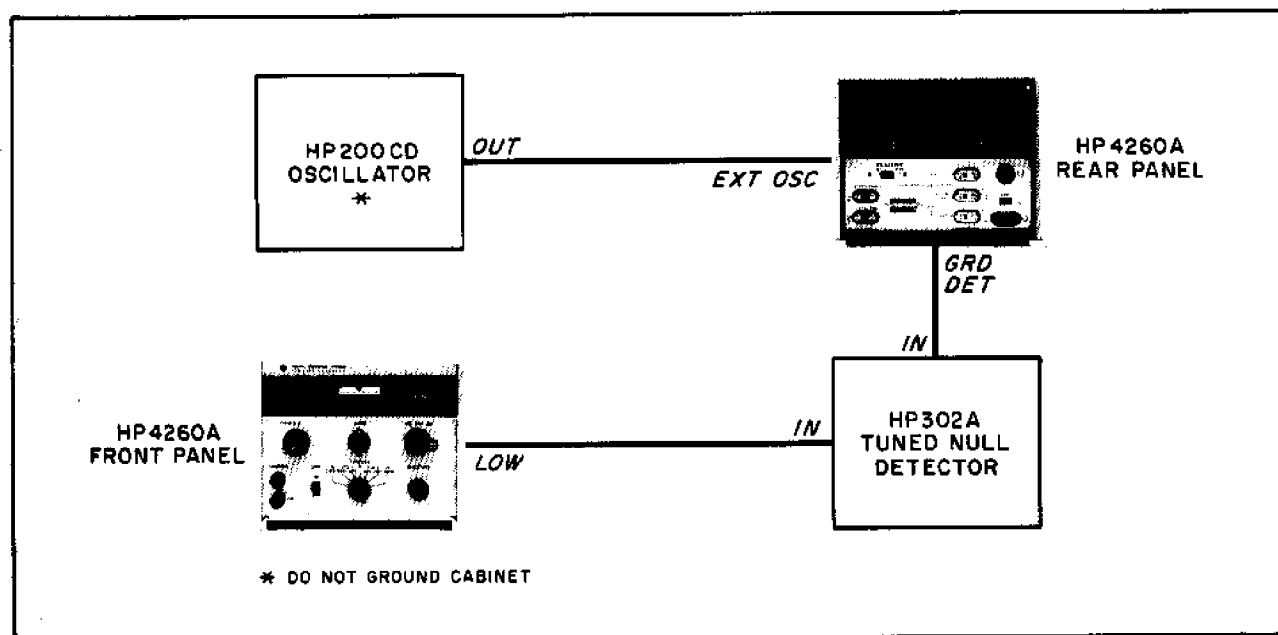

Figure 3-3. Operation with External Generator
3-47. For impedance measurements at frequencies other than 1 kHz (between 20 Hz and 20 kHz), connect the external oscillator and associated equipment as shown in Figure 3-3 and proceed.
b. Set external oscillator output voltage to minimum and connect to EXT. OSCILLATOR terminals (see Figure 3-3).
Bridge null can be obtained using a tuned null detector with less than 90 dB gain connected to the DETECTOR terminals. (The DETECTOR terminals are connected to the output of the internal pre-amplifier.) For most accurate and sensitive measurements, the method shown in Figure 3-3 is recommended.